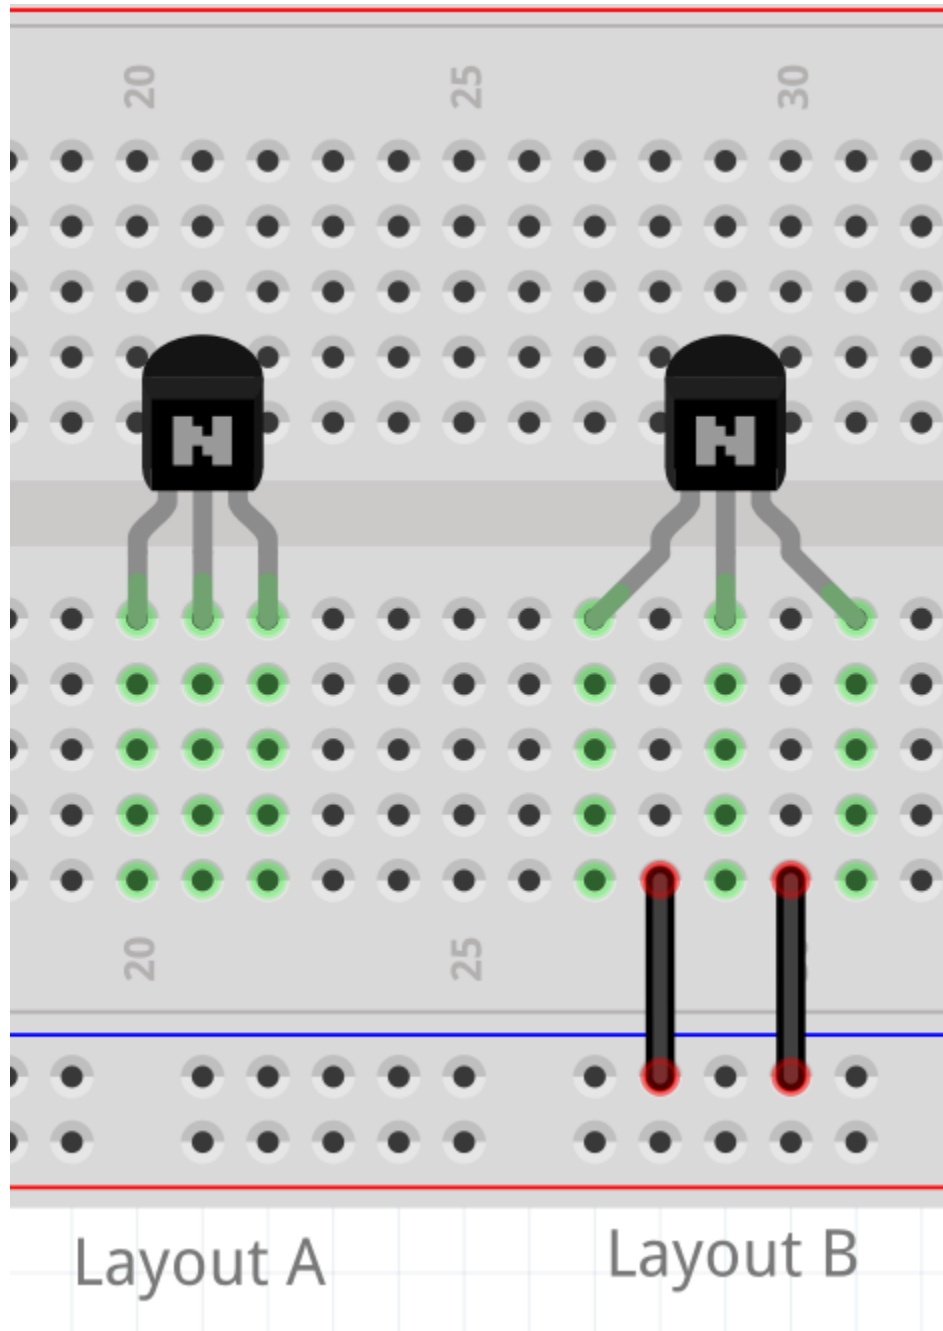

Figure 1: Different layouts for transistors.
2. Build two common emitter amplifiers with gains of 120, collector currents of 1mA and supply voltages of 15V. Use the same design for both (i.e.: same R_c , R_e , C_e , etc.), but lay them out on your breadboard differently as shown in Figure 1: one device has its terminals on adjacent rows while the other has the rows between terminals grounded. We will refer to the amplifier with layout A as amplifier A and the amplifier with layout B as amplifier B.